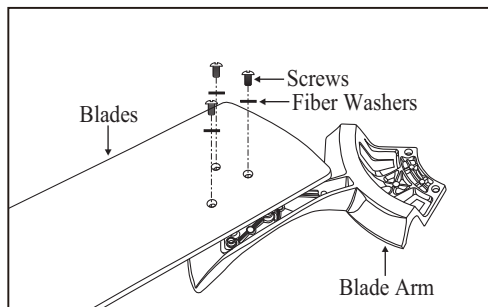

Figure 13
1. Attach blades to blade arms using three screws with fiber washers. (Fig. 13) Start a screw into the blade arm, do not tighten. Repeat for the 2 remaining screws and washers.